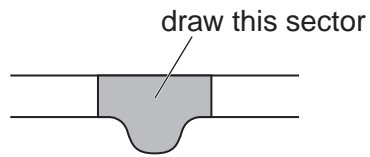

Fig. 2.1
- (a) (i) Draw a large plan diagram of the part of the leaf indicated by the shaded sector in Fig. 2.1.